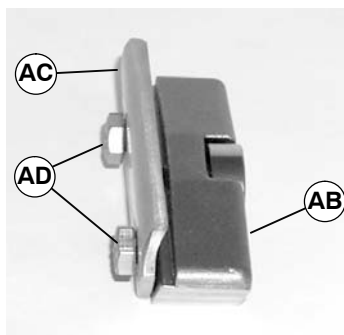

Figure 12
2. Loosely attach clamp plate (AC of Figure 12) on mounting block (AB) with two screws (AD). Do not tighten screws.